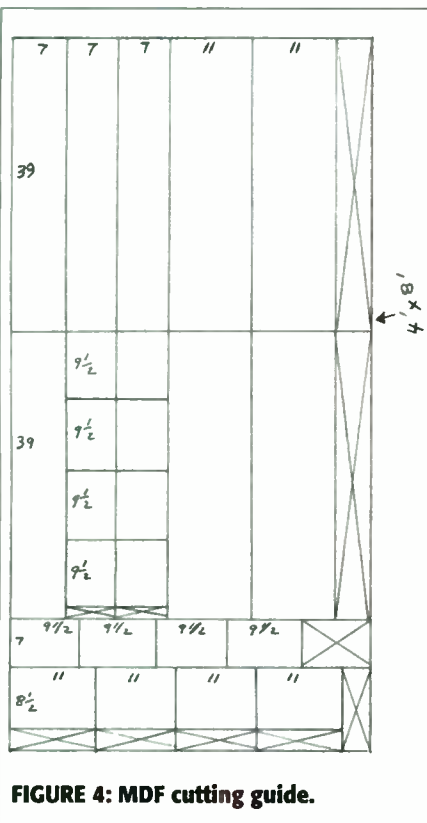

FIGURE 4: MDF cutting guide.
1. Cut out all of the pieces from the MDF (*Fig. 4*) and particleboard on a table saw. After cutting out the major pieces from the MDF sheet, cut the leftover